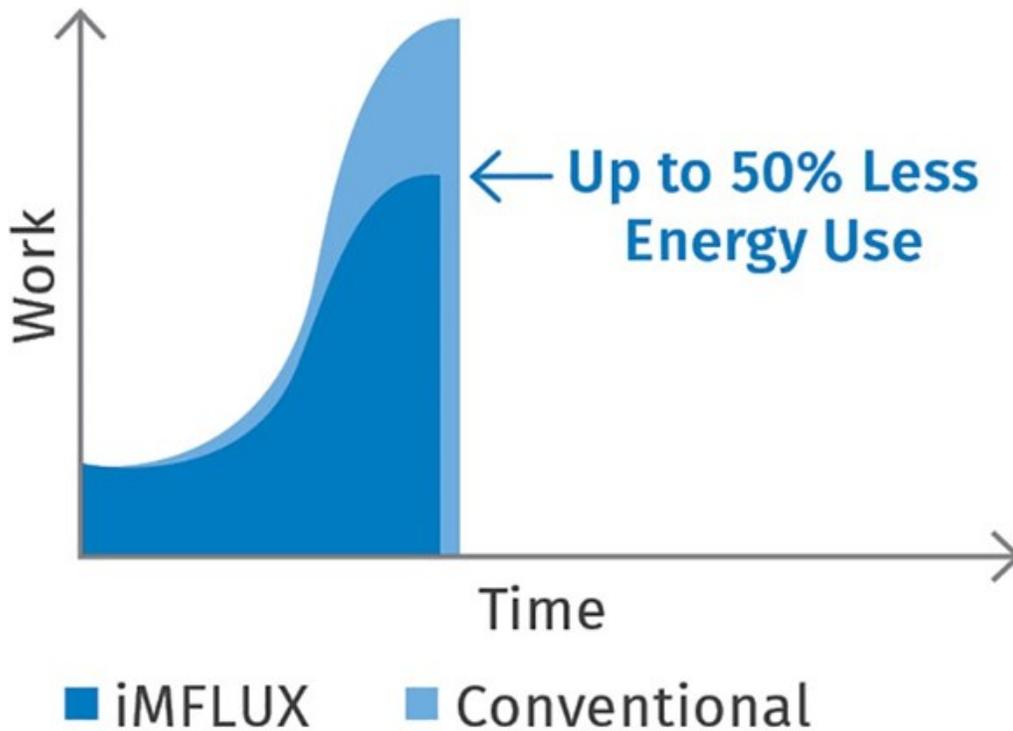

FIG 6 Lower filling pressures result in lower clamping energy with iMFLUX.
- *Clamping energy* is reduced by up to 50%, since lower filling pressures require lower clamp tonnage. Figure 6 illustrates this effect.